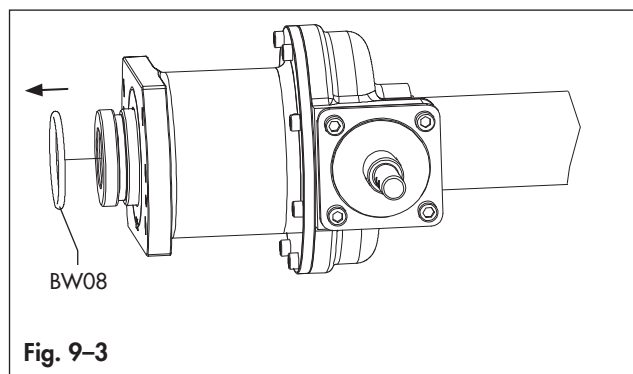

Fig. 9-3
- Remove the o-ring (BW08) from the bevel gear. (Fig. 9-3)